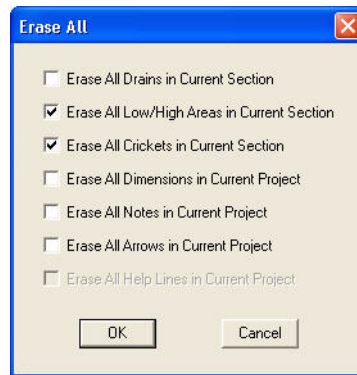

Figure 8-10 Erase All dialog box
3. Click **Erase All Low/High Areas in Current Section**, and click **Erase All Crickets in Current Section**, as shown in Figure 8-10.